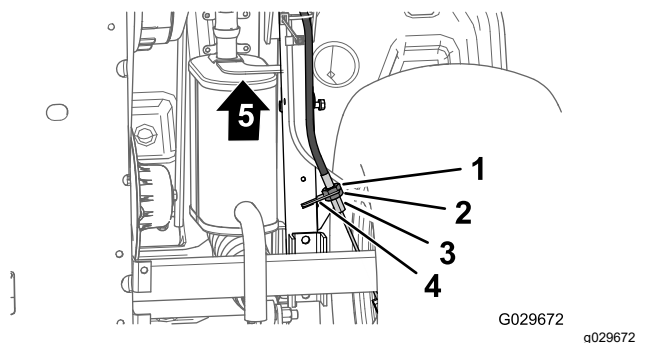

Figure 51
3. At the bottom of the machine, loosen the rear jam nut for the threaded adjuster of the parking-brake cable 4 turns (Figure 51).
4. Tighten the forward jam nut (Figure 51).
- A. Loosen the forward jam nut (Figure 51) for the threaded adjuster of the parking-brake cable 1 turn.
- B. Tighten the rear jam nut (Figure 51).
- A. Loosen the rear jam nut (Figure 51) for the threaded adjuster of the parking-brake cable 1 turn.
- B. Tighten the forward jam nut (Figure 51).